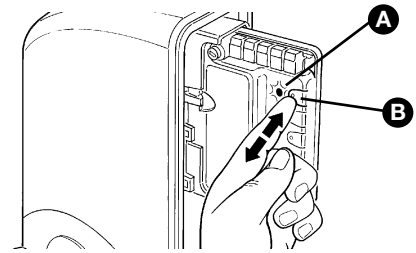

Figure 72
- 2 Press button P1 (figure 72) on the control unit as many times as the number corresponding to the desired command, according to the following table, (e.g. 3 times for the "Open only" command):
- 1 Press and hold down button P1 [B] (Figure 72) on the control unit.